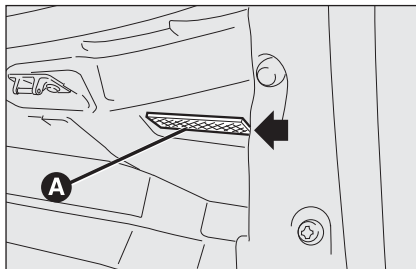
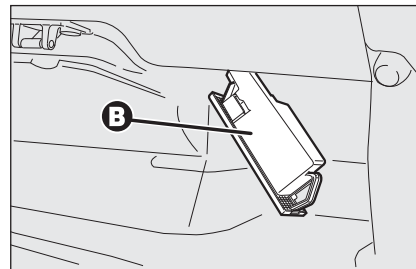

fig. 48
fig. 49
- remove the light unit **A-fig. 48** levering in the point shown by the arrow;
- raise protection **B-fig. 49** and replace the snap-fitted bulb;
- close protection **B-fig. 49** on light unit **A-fig. 48**;